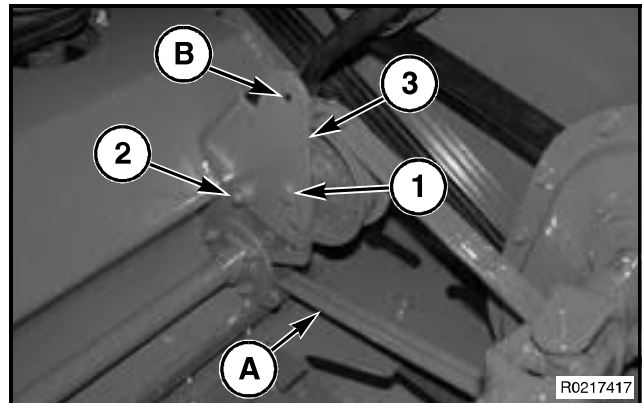

FIG. 23
FIG. 23: Loosen the mounting bolt (1) and the hex flange lock nut (2). Using a breaker bar inserted in the hole (B) rotate the mounting plate (3) to adjust the tension on the belt. Tighten the mounting bolt and the hex flange lock nut.